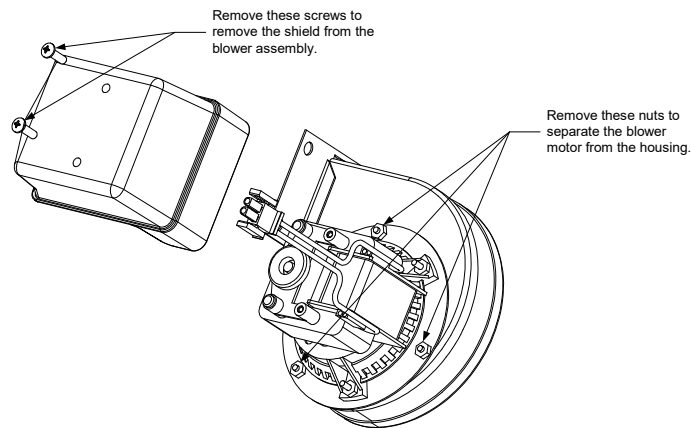

Figure 9
2. Remove the blower motor shield and separate the blower motor from the housing as shown in the illustration below (see Figure 9).